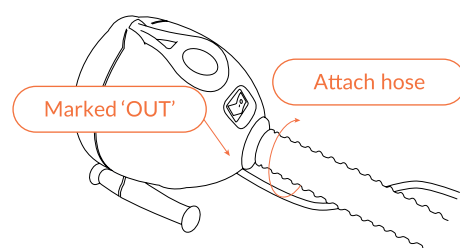
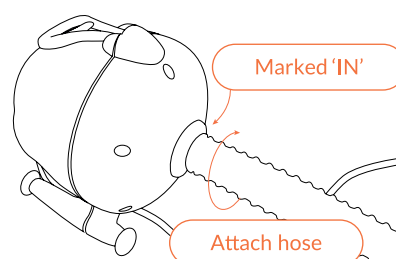

Fig 9 - Inflate (marked **OUT** on pump)
Fig 10 - Deflate (marked **IN** on pump)
1. Before plugging to an AC socket, ensure that the Bravo OV10 pump is in the correct mode. Inflate (Fig 9) or Deflate (Fig 10).
2. (a) **To Inflate:** The pump is clearly marked **OUT** where the inflation hose must be attached for inflation (Fig 9).(b) **To Deflate:** The pump is clearly marked **IN** where the inflation hose must be attached for deflation (Fig 10).